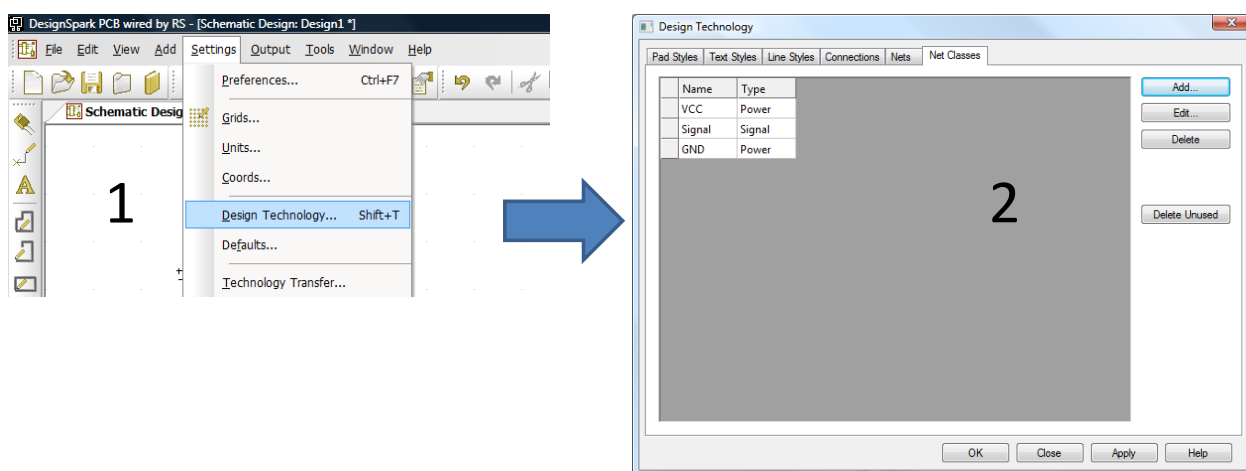

Figure 6-17: Generating Schematics – Design Technology
The Net Class in the PCB design contains track thicknesses and via styles, that will be used once routing is started. We therefore need to generate Net Classes as shown in Figure 6-17.
1. Select “Settings” - “Design Technology” (as shown in Figure 6-17 image 1) to open the “Design Technology” screen.
2. We start by generating these three simple Net Classes by selecting the “Add” button under the “Net Classes” tab (as shown in Figure 6-17 image 2).
8. Next we want to ensure that the line styles match those of the components, to ensure that the schematic has a uniform line width. Select "Settings" - "Design Technology" (as shown in Figure 6-17 image 1) to open the "Design Technology" screen.